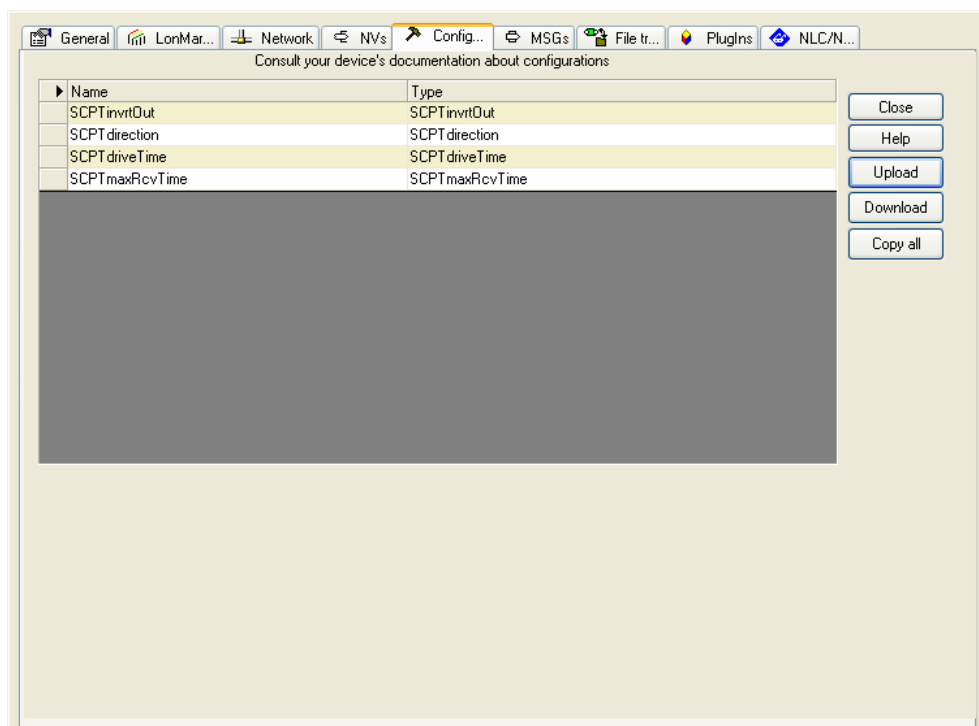

Figure 115: Configuration Tab for Configuration Properties in NL220.
2. Press the **Upload** button on the Configuration tab of the device properties (see Figure 115).